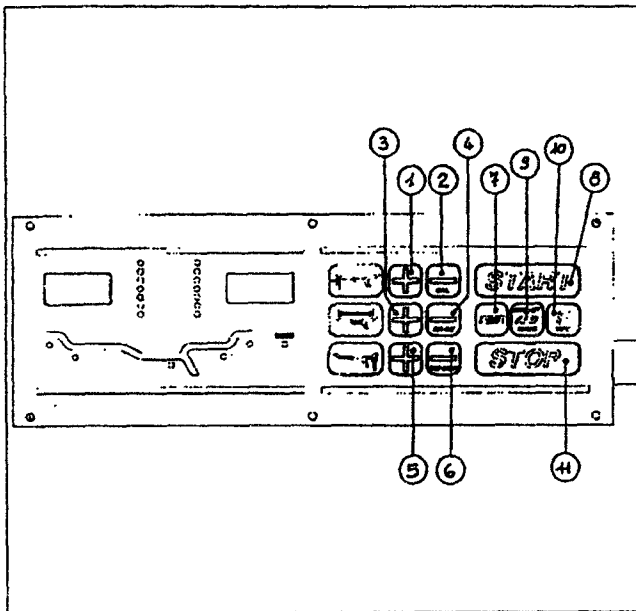

Fig.45
- B.** The rim offset and diameter can also be manually input by using the appropriate push buttons (#1 -#2 and #5 -#6 Fig.45).
- E.** Input rim width in the balancer with the appropriate buttons (#3 and #4 Fig.45).
F. To enter all data with an increased resolution press the button 'FINE' first (#7 Fig.45). Press the button again to restore the standard accuracy.
To select the different balancing programs press the button 'ALU' (#9 Fig.45). The balancing programs available are :